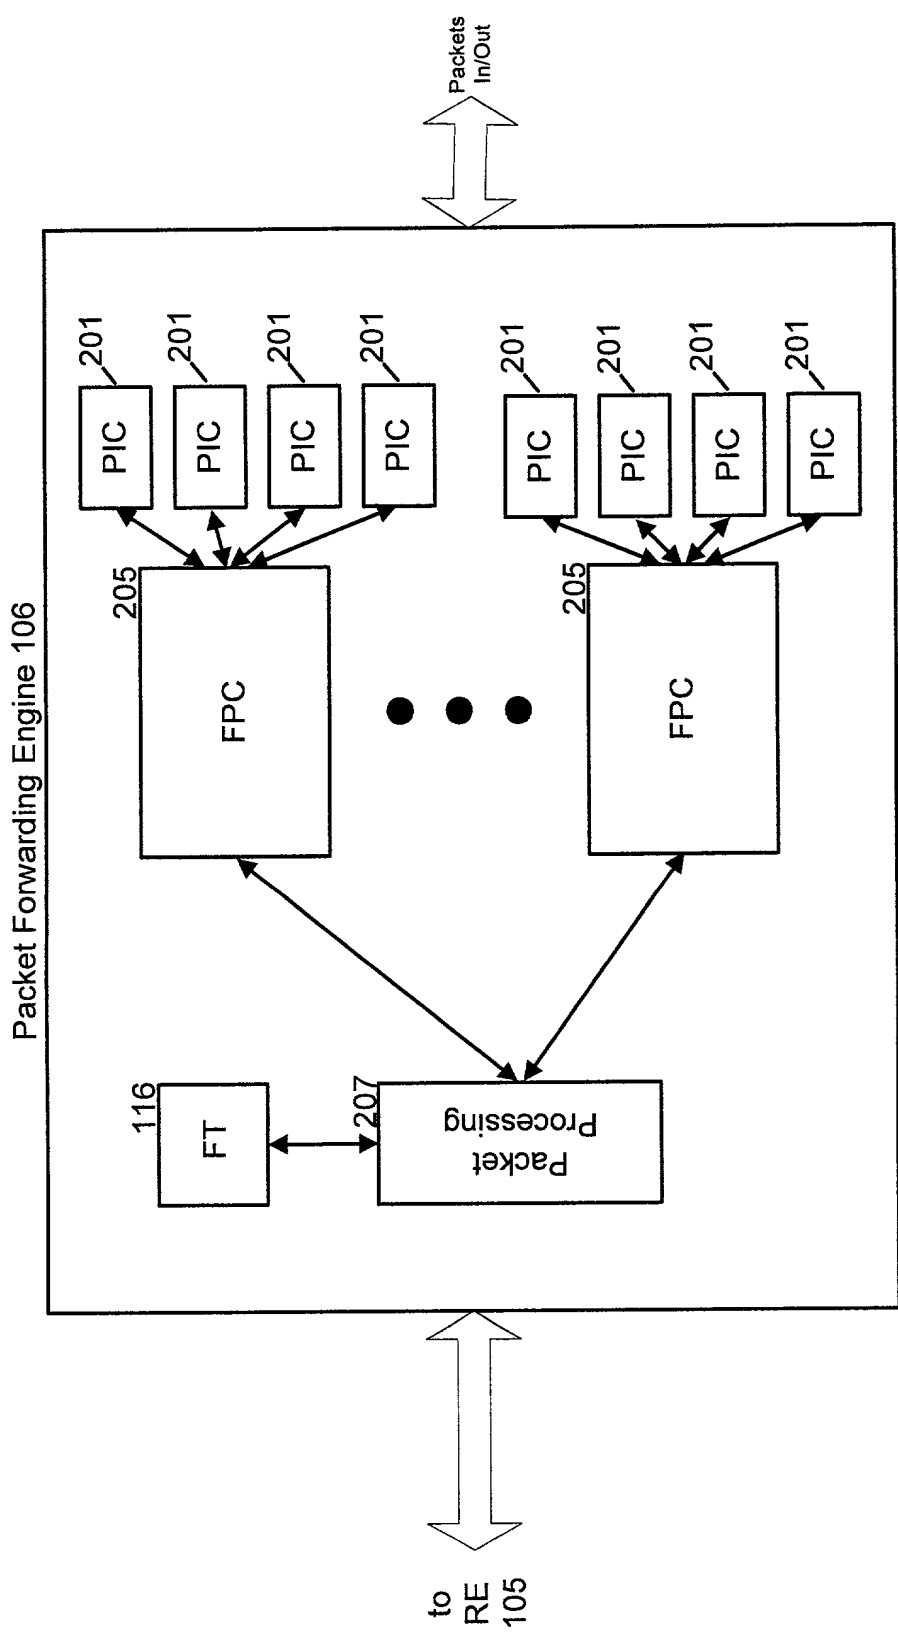

Fig. 2
FIG. 2 is a block diagram of a Packet Forwarding Engine 106, according to one embodiment of the present invention. The Packet Forwarding Engine 106 is shown in communication with a Router Element 105 and a Packet Processing unit 207. The Packet Forwarding Engine 106 includes a Forwarding Table (FT) 116, a Packet Processing unit 207, and a Forwarding Plane (FPC) 205. The FPC 205 is connected to the FT 116 and the Packet Processing unit 207. The FPC 205 is also connected to a set of Packet Interface Cards (PICs) 201. The PICs 201 are connected to the FPC 205 and to the Router Element 105. The Router Element 105 is connected to the Packet Forwarding Engine 106 via a bidirectional arrow labeled "to RE 105". The Packet Forwarding Engine 106 is connected to the Packet Processing unit 207 via a bidirectional arrow labeled "207". The Packet Processing unit 207 is connected to the Router Element 105 via a bidirectional arrow labeled "Packets In/Out".